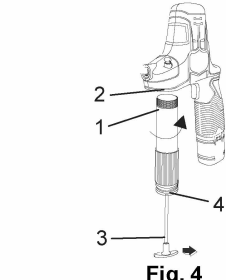

Fig. 4
1. Remove the grease tube (1) from the grease gun (2) (Fig. 4).